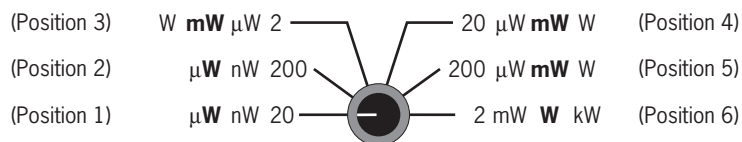

Figure 7 — Model 1815-C Range Switch Positions
2. Set the Range switch to position 1, the highest gain position. See Figure 7.
2. Set the Range switch to position 3, the highest gain position in the voltage mode. See Figure 7.